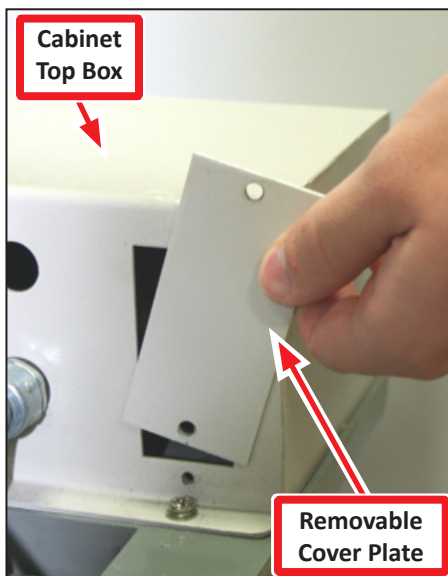

Figure 9
5. Pull the Turret Harness through the casting far enough so that the new cover plate can reach beyond the cabinet-top box (see **Figure 9**).
7. To begin routing the Power and Encoder ends of the Turret Harness into the electrical cabinet, you must first unscrew the removable cover plate from the cabinet-top box (see **Figure 9**); set screws aside.